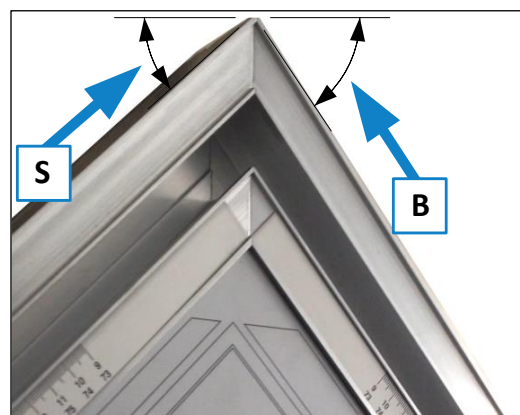

Figure 8: Angles for wrong mitres
This automatically results in the correct angle to the saw blade for the narrower workpiece (S) on the left side of the DSG-A and for the wider workpiece (B) on the right (refer $\Rightarrow$ Figure 8).